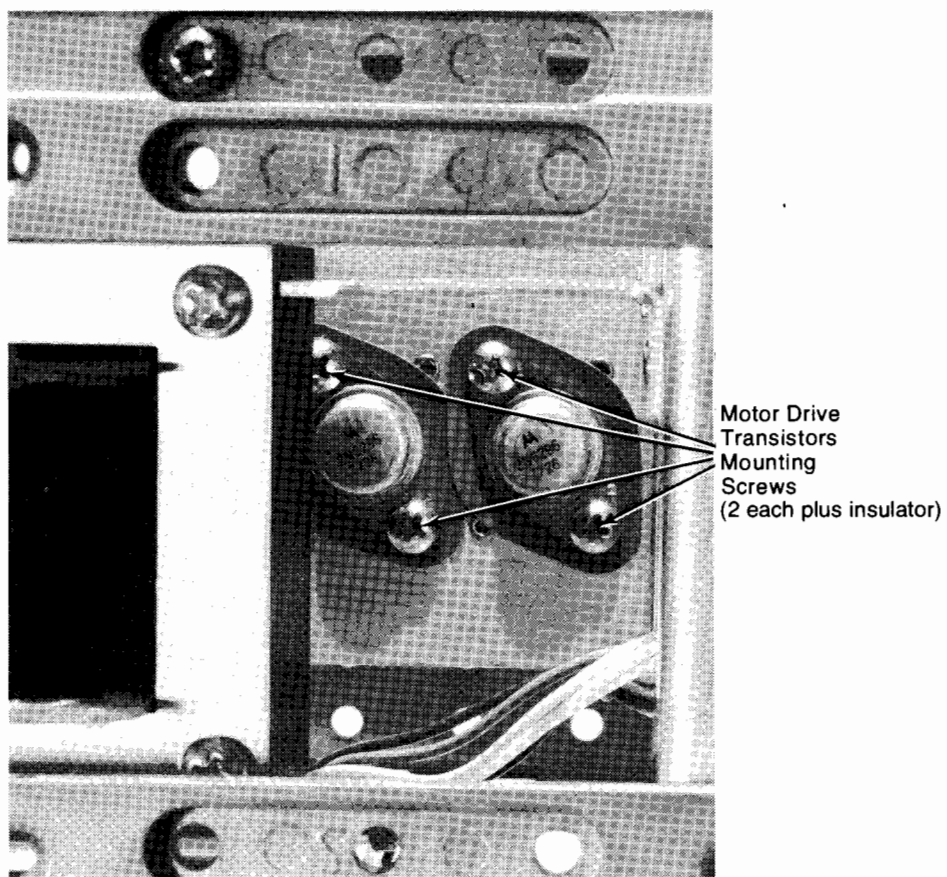

Figure 4-7: Motor Drive Transistors Removal
The motor driver transistors can be removed by removing the two (2) mounting screws for each transistor and by disconnecting the transistor from the socket. When replacing a motor driver transistor, remember to replace the sil-pad insulator under each transistor (Figure 4-7).